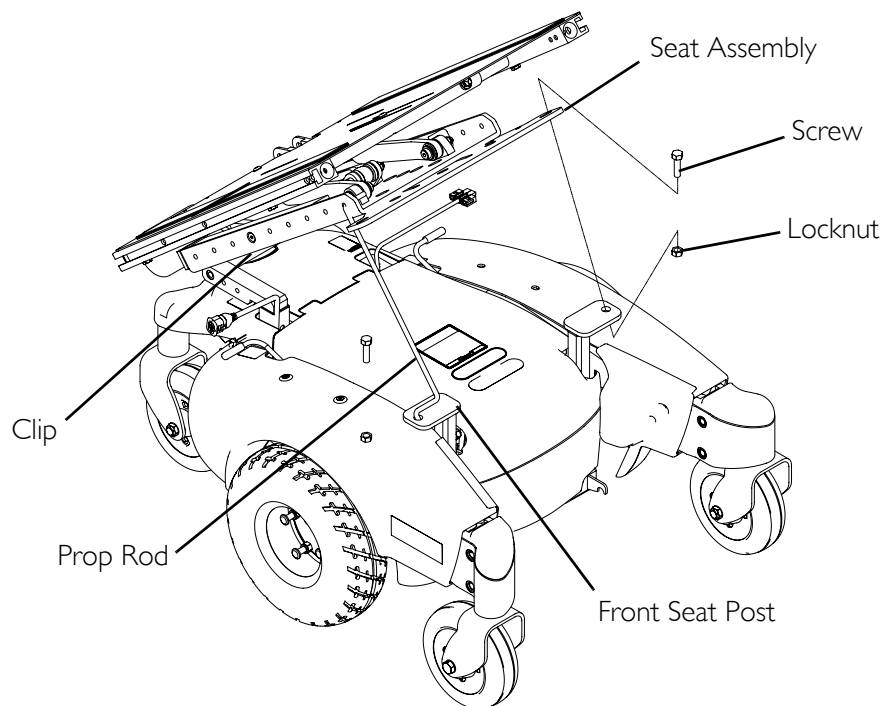

FIGURE 6.1 Tilting the Seat Assembly (Formula CG Only)
NOTE: For this procedure, refer to FIGURE 6.1 on page 42.
8. Remove prop rod from the clip located on the seating assembly and engage the prop rod end into the front seat post as shown in FIGURE 6.1.